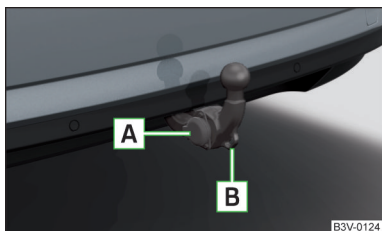

Fig. 222
- Plug the trailer cable into the 13-pin socket **A** » Fig. 222.